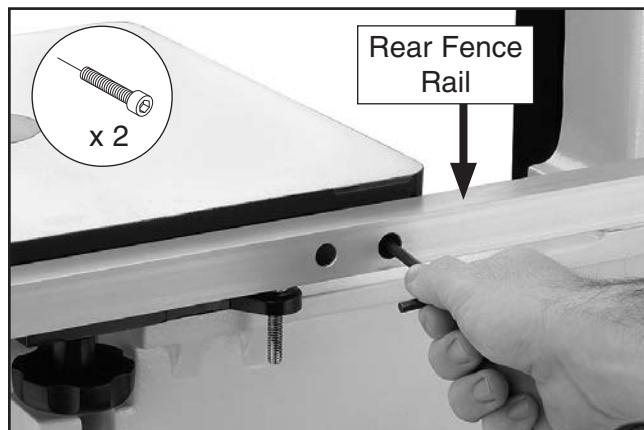

Figure 17. Installing rear fence rail.
13. Attach the rear fence rail to the rear of the table with (2) $\frac{1}{4}$ "-20 x $\frac{5}{8}$ " cap screws, as shown in **Figure 17**.